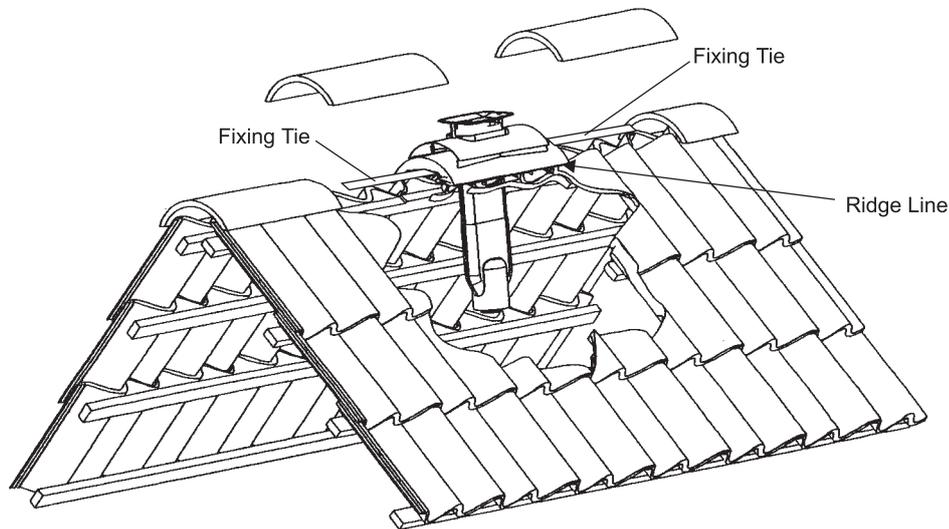

Fig. 3
- c. If applicable, remove the existing ridge tile and the ridge tiles either side then clean the area of any mortar. Refer to Fig. 3.
- d. Lay cement mortar or a mortar substitute, e.g. Flexim, a flexible mortar, at the ridge line where the Ridge terminal meets the tiles/slates. Firmly push the ridge terminal into position allowing mortar to penetrate the mortar bedding tray. Refer to Fig. 3.
- e. Secure the terminal to the roof structure via the two fixing ties. Refer to Fig. 3.